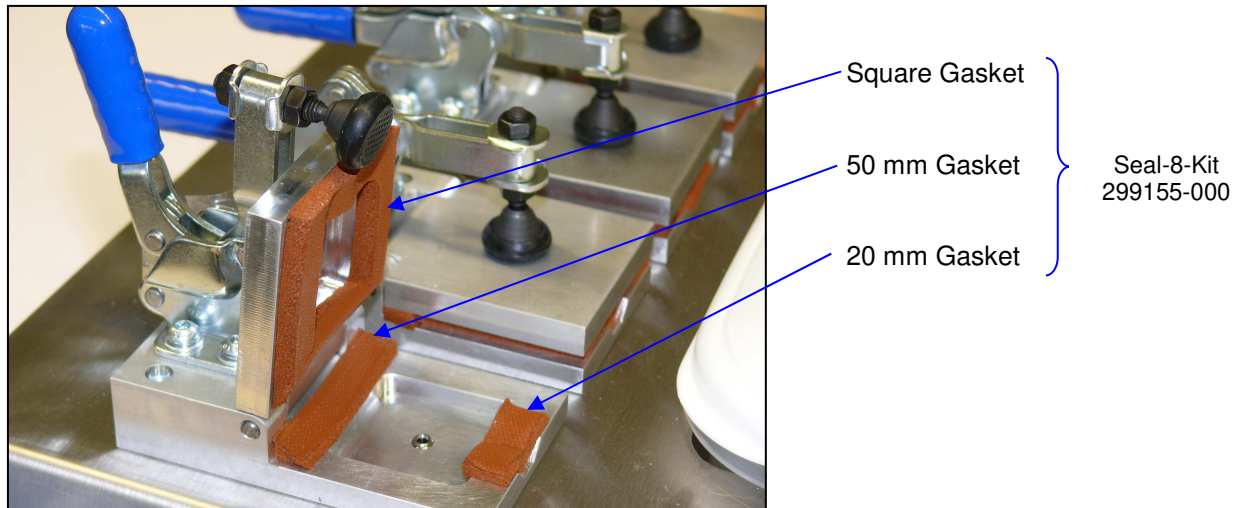

Figure 8. Mounting Seal-Kit (Order-no.: 299155-000)
4. Check all seals are correctly aligned (see *Figure 8*).
4. Remove the protective paper backing from the gasket material and fit new 'square gaskets' to the top plates as required (see *Figure 8*.)
5. Cut 50mm and 20mm lengths of the 600mm strip material as required. Remove the protective paper backing from the gasket material and fit them to the bottom plates (see *Figure 8.*).